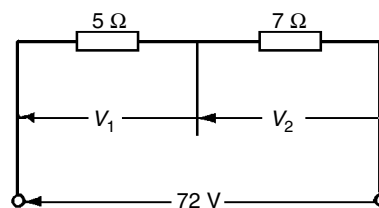

Figure 5.32
- For the circuit shown in Fig. 5.32, find (a) V_1 , (b) V_2 , without calculating the current flowing.